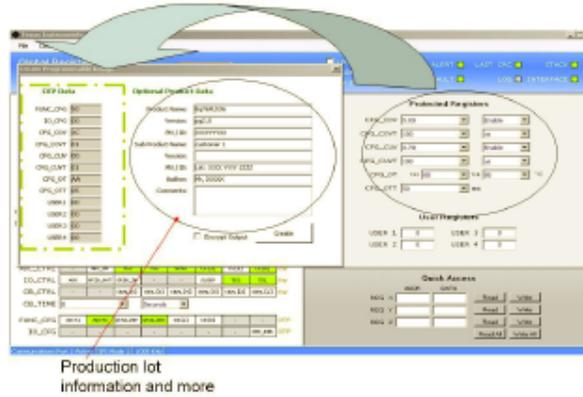

Figure 5. Entering Optional Product Data
- (b) Enter information on optional product data (Figure 5).